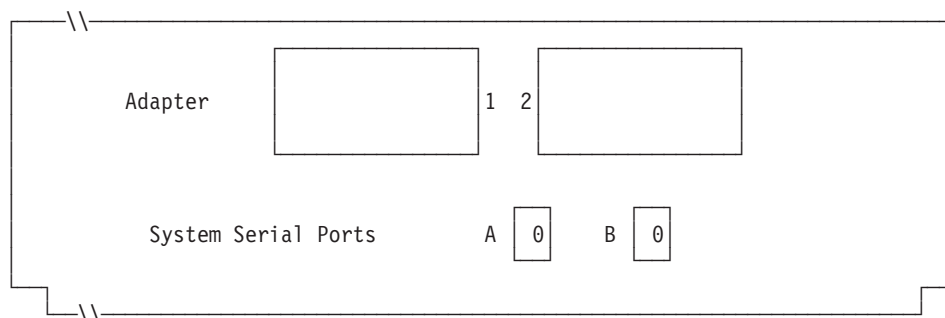

Figure 93. Right Side of Rear of 4693-3x1 Point-of-Sale Terminal
6. If terminal applications use the asynchronous port, write the port number on Figure 93. Use a 0 if the terminal does not use a port. Valid port numbers are 1, 2, 3, 4.